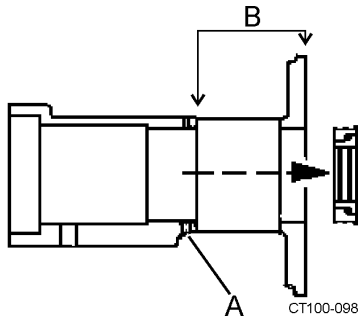

Figure 47 - Remove Setscrews
1. Using an 1/8" hex wrench, loosen the setscrews (Figure 47, item A).
2. Remove the impeller end of the bearing housing (Figure 47, item B).
3. Remove the outer seal ring assemblies (the inner seal ring and O-rings). See Figure 47 and Figure 48.
**NOTE:** Figure 47 shows the seal position at the motor end. Seals at the pump end face inward. Make sure to tighten the setscrews when installing the outer seal assemblies (Figure 49).